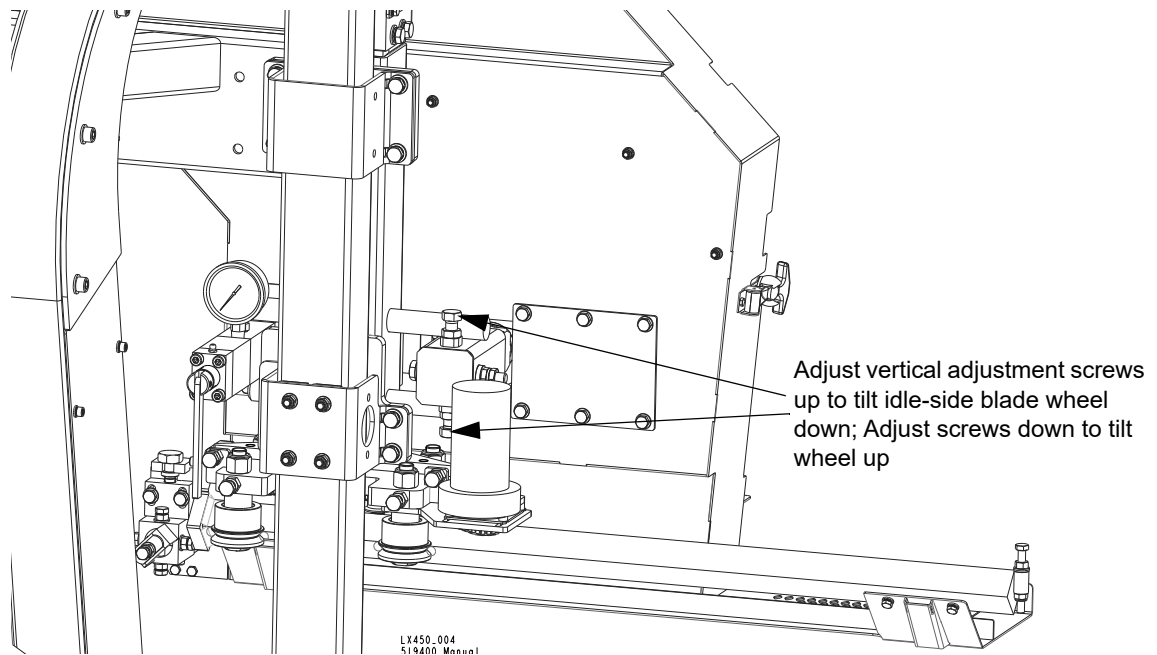

FIG. 5-6
**See Figure 5-6.** Use the vertical adjustment screws to adjust the idle-side blade wheel. To tilt the wheel up, loosen the bottom adjustment screw one quarter turn. Loosen the jam nut on the top adjustment screw and tighten the screw. Tighten the top and bottom jam nuts.